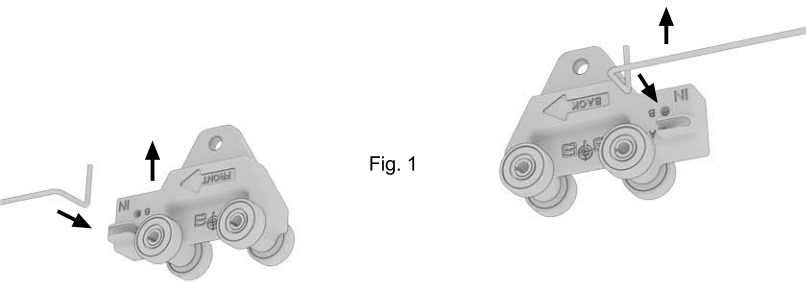

Fig. 1
Step 3: Attach each end of the Steel Cable to one of the rolling trucks (see Fig. 1 below). The cable will thread in, down, then tighten with Allen wrench.